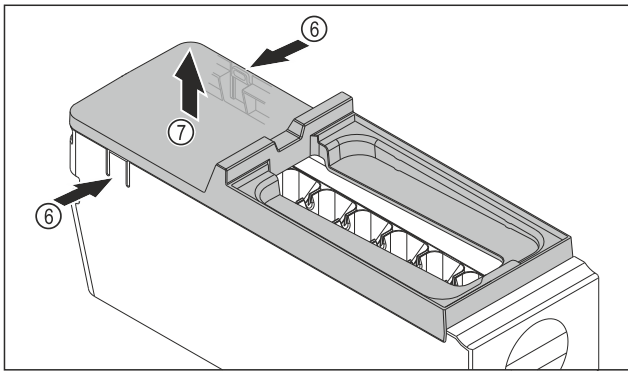

Fig. 135
- ▶ Removing the cover of the EasyTwist-Ice body: With one hand, press the tabs Fig. 135 (6) on both sides of the EasyTwist-Ice body.
- ▶ With the other hand, remove the cover Fig. 135 (7) upward.